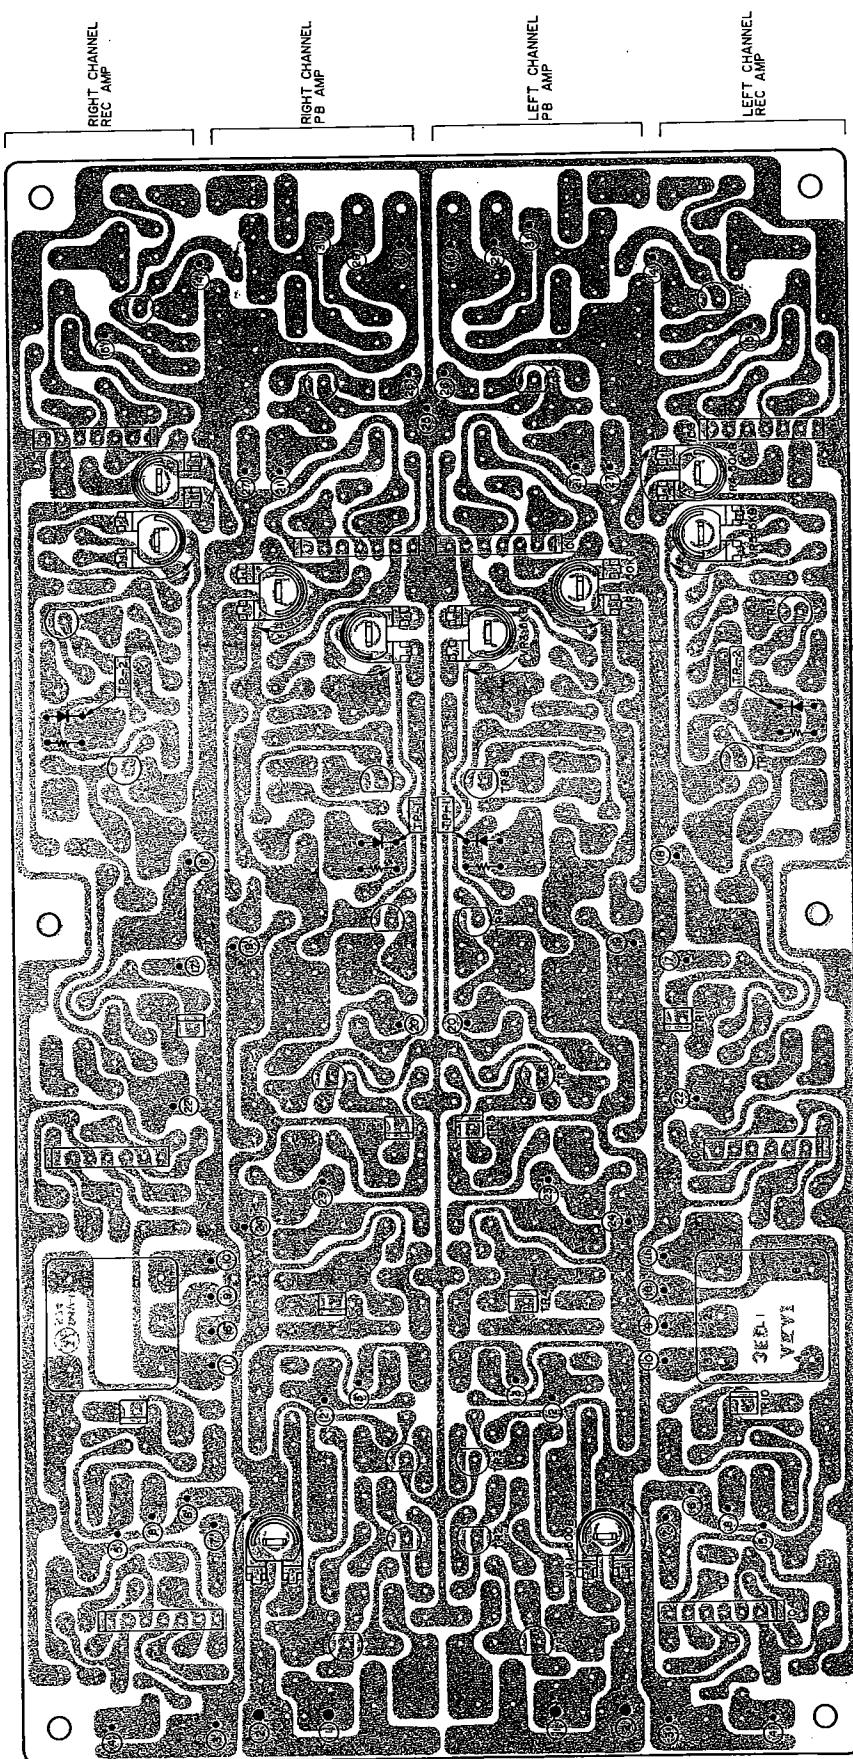

Fig. 16 Pre Amp P.C Board CA-5205
1. RECORDING/PLAYBACK AMPLIFIER ADJUSTMENT (Refer to Fig. 16, 17 and 18 and Chart-1)
2. DOLBY NOISE REDUCTION CIRCUIT ADJUSTMENT (Refer to Fig. 16)
AMPLIFIER ADJUSTMENT (Refer to Fig. 16)
- e. With the Dolby Noise Reduction Switch at ON, adjust semi-fixed resistor VR4, 50 kB shown in Fig. 16 to obtain a -20 dBm level at center terminal of "REC CAL" Volume.
- f. Disconnect test point TP2 from ground and adjust semi-fixed resistor VR5, 5 kB shown in Fig. 16 to obtain a -22 dBm level at center terminal of "REC CAL" Volume.
- d. Supply a 5 kHz signal to terminal (13) shown in Fig. 16 and obtain a -20.5 dBm line output level.
- e. Set the Dolby Noise Reduction Switch to ON and adjust semi-fixed resistor VR2, 50 kB shown in Fig. 16 to obtain a -30.5 dBm line output level.
- f. Disconnect test point TP1 from ground and adjust semi-fixed resistor VR3, 5 kB shown in Fig. 16 to obtain a -28.5 dBm line output level.